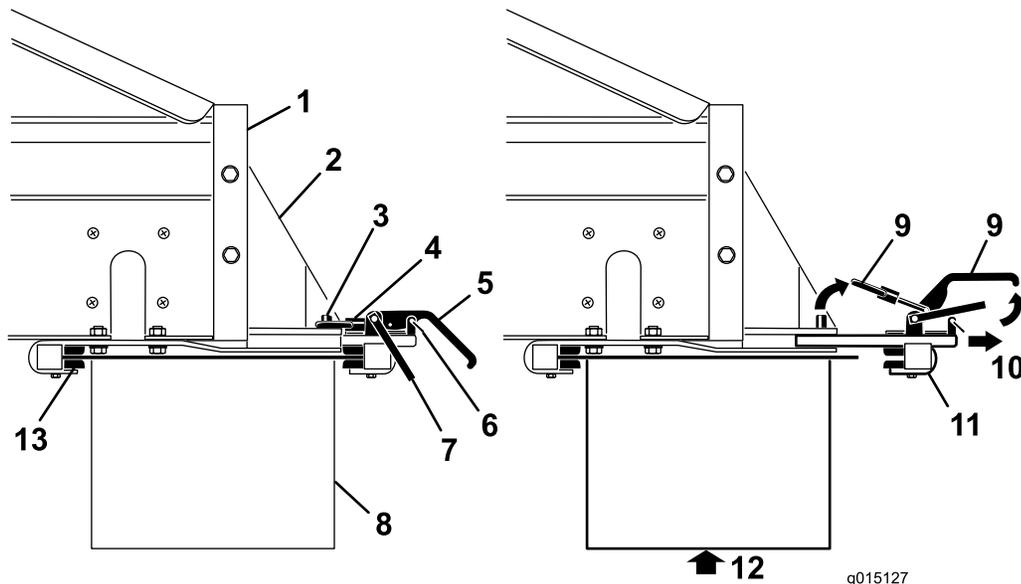

Figure 37
- Remove the safety latch clips from the clamp handles (Figure 37).
- With assistance, insert the front edge of the cross conveyor/swivel up and under the rear of the MH-400 into the front clamps on the brackets (Figure 37).
- While supporting the cross conveyor/swivel, slide the rear option attachment clamp assembly back into the slots in the brackets, and over the rear edge (Figure 37).
- Reinstall the safety latch clips to the clamp handles (Figure 37).